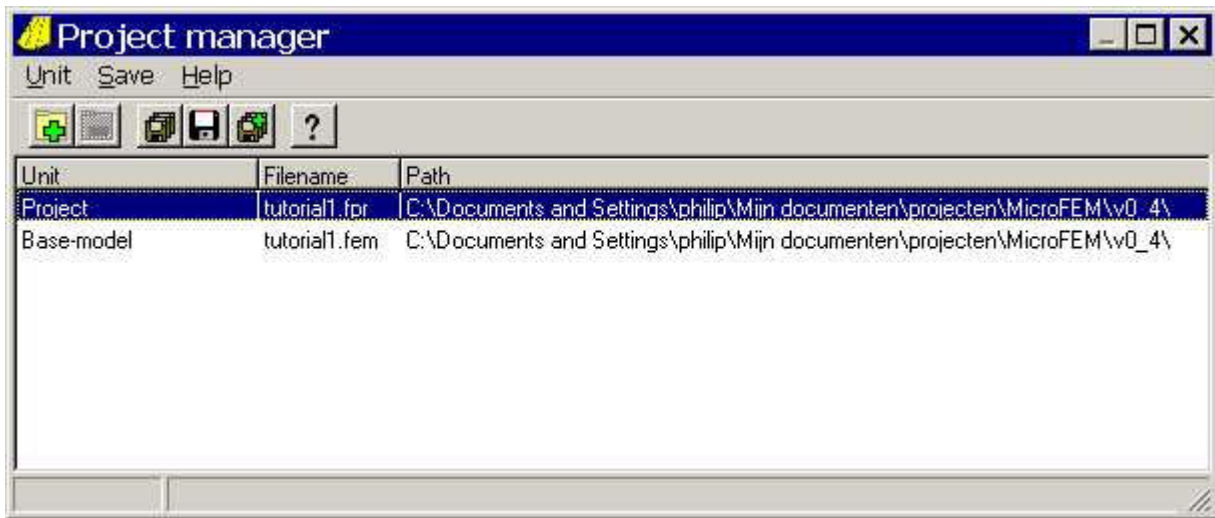

Figure 19: Project manager pop-up window (1)
1. Click on the main menu on Project → Project manager. You'll see the following pop-up window (Figure 19):